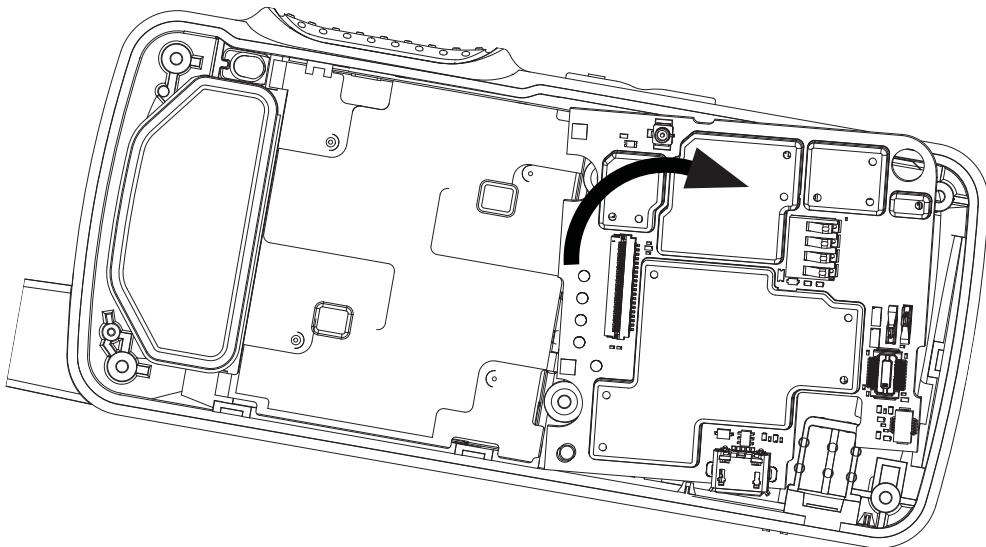

Figure 5-22. PCB board reassembly
6. Place the main PCB onto the PCB guide pin and pivot the PCB into the front housing by turning it clockwise slightly so that it slots under the PCB retainer catch as shown in Figure 5-22.